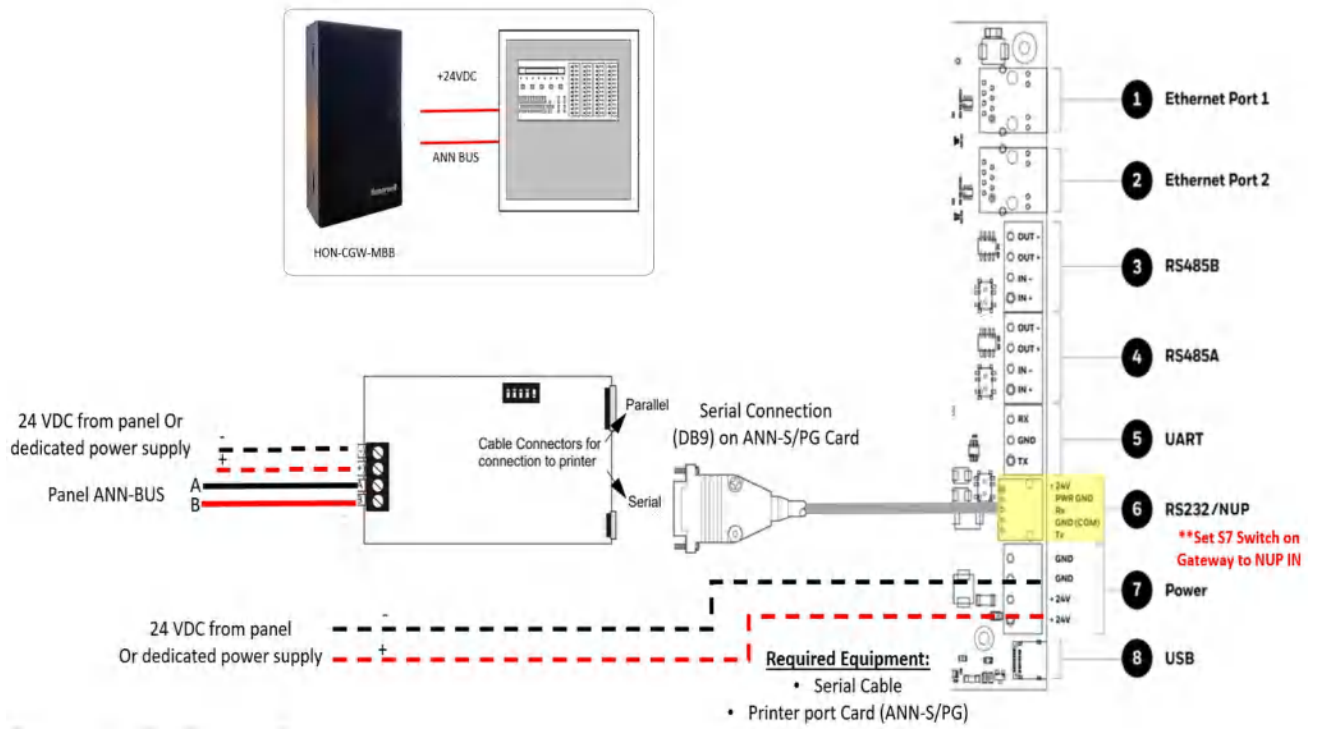

Figure C.15: FireWarden Panels: Printer Port Connections
- Connect the serial cable into the RS-232 port of the CLSS Gateway mainboard. The RS-232 port is labeled as 6 in the Figure C.15.
The RS-485 ports are labeled as 3 and 4 in the Figure C.15.
The power port is labeled as 7 in the Figure C.15.